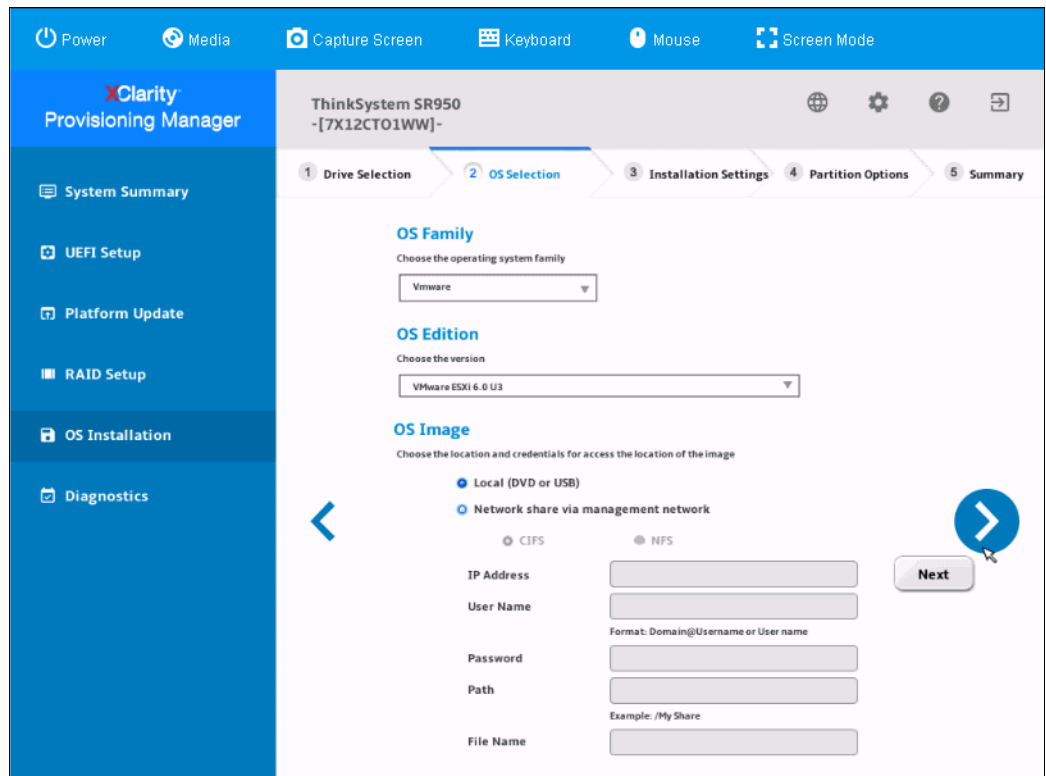

Figure 6-16 OS Selection screen
7. Select the **OS Family**, **OS Edition**, and location of the **OS Image** that will be installed as shown in Figure 6-16. Note, the installation will fail if the OS and OS edition selected here does not match the OS and edition being installed on the SR950. Click **Next**.